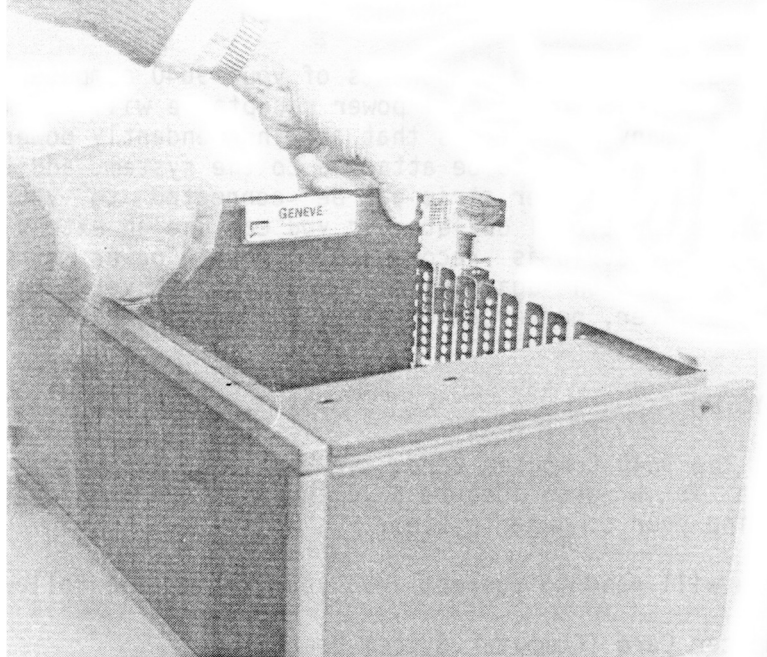

Figure 3 - 9640 computer card. Connector sockets are at the rear
5. The label identifying the 9640 system board is on the very top of the card. At the rear of the Card are the keyboard, video, mouse, and joystick connector ports. Hold the 9640 Computer Card (label side up) with the connector ports facing towards the rear of the PE box. See figure 3.